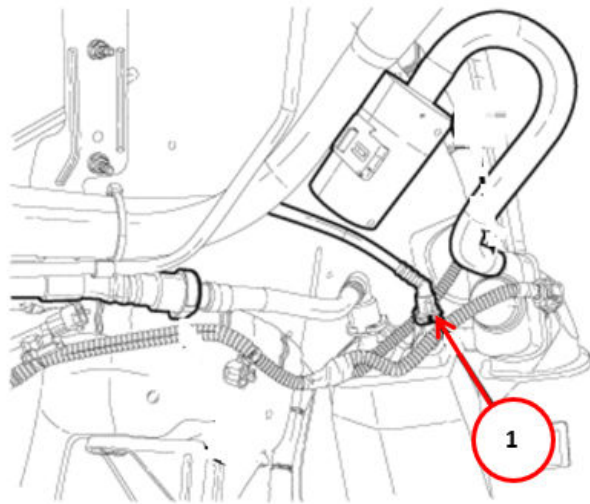

Fig. 1
3. Disconnect the vapor purge line quick-connect fitting at the Evaporative Emissions (EVAP) control system canister Fig. 1.
7. Connect the vapor purge line quick-connect fitting at the Evaporative Emissions (EVAP) control system canister Fig. 1.